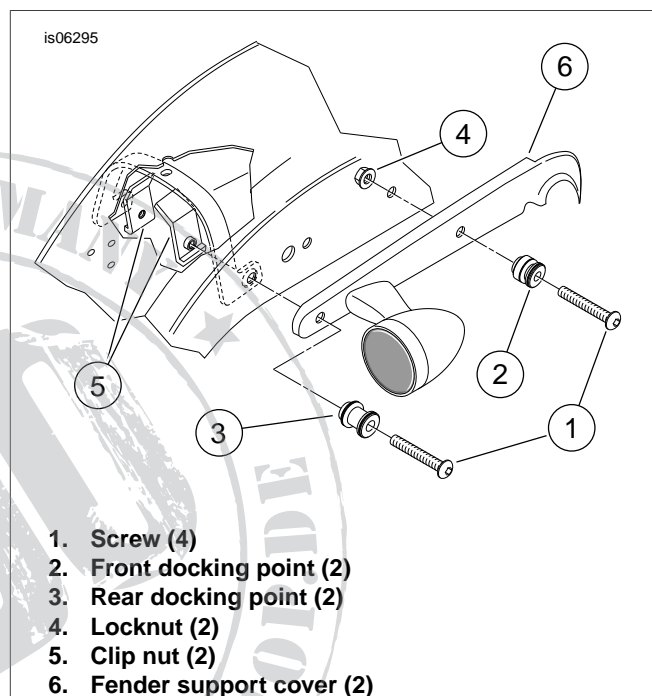

Figure 1. Rear Fender Support
1. See Figure 1. Remove the front screw (1) and locknut (4) from the rear-fender support cover (6). Discard the screw. Discard the stock locknut if docking points were not previously installed. Retain the front docking point (2) and locknut (4) if docking points previously installed.
2. Remove the rear screw (1) and clip nut (5) from the rear fender support cover taking note of the orientation of the clip nut inside the fender supports. Discard the screw, but retain the clip nut. Retain the rear docking point (3) if previously installed.
3. Remove and relocate the rear turn-signals from the rear fender support covers (6) per instructions provided in the service manual and relocation kit.